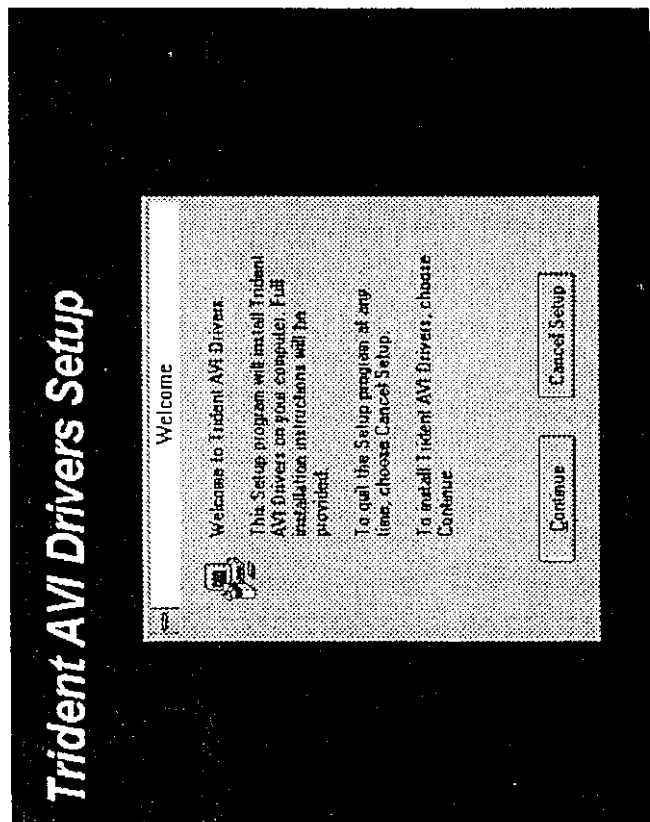

Figure 3-16.
5. The Trident AVI Drivers Setup screen will appear. PRESS "continue" to start installation. (see Figure 3-16).